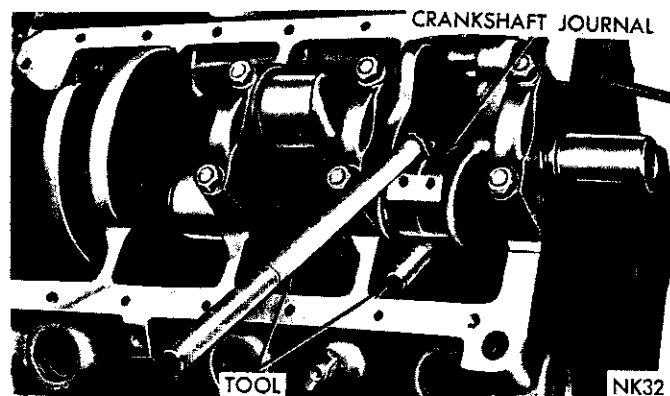

Fig. 43—Removing or Installing Connecting Rod
(4) Install connecting rod bolt protectors on rod bolts, the long protector should be installed on the numbered side of the connecting rod.
(5) Rotate crankshaft so that the connecting rod journal is on the center of the cylinder bore. Insert rod and piston into cylinder bore and guide rod over the crankshaft journal (Fig. 43).
(6) Tap the piston down in cylinder bore, using a hammer handle. At the same time, guide connecting rod into position on crankshaft journal.
(7) The notch or groove on top of piston must be pointing toward front of engine and the larger chamfer of the connecting rod bore must be installed toward crankshaft journal fillet.
(8) Install rod caps, tighten nuts to 45 foot-pounds.